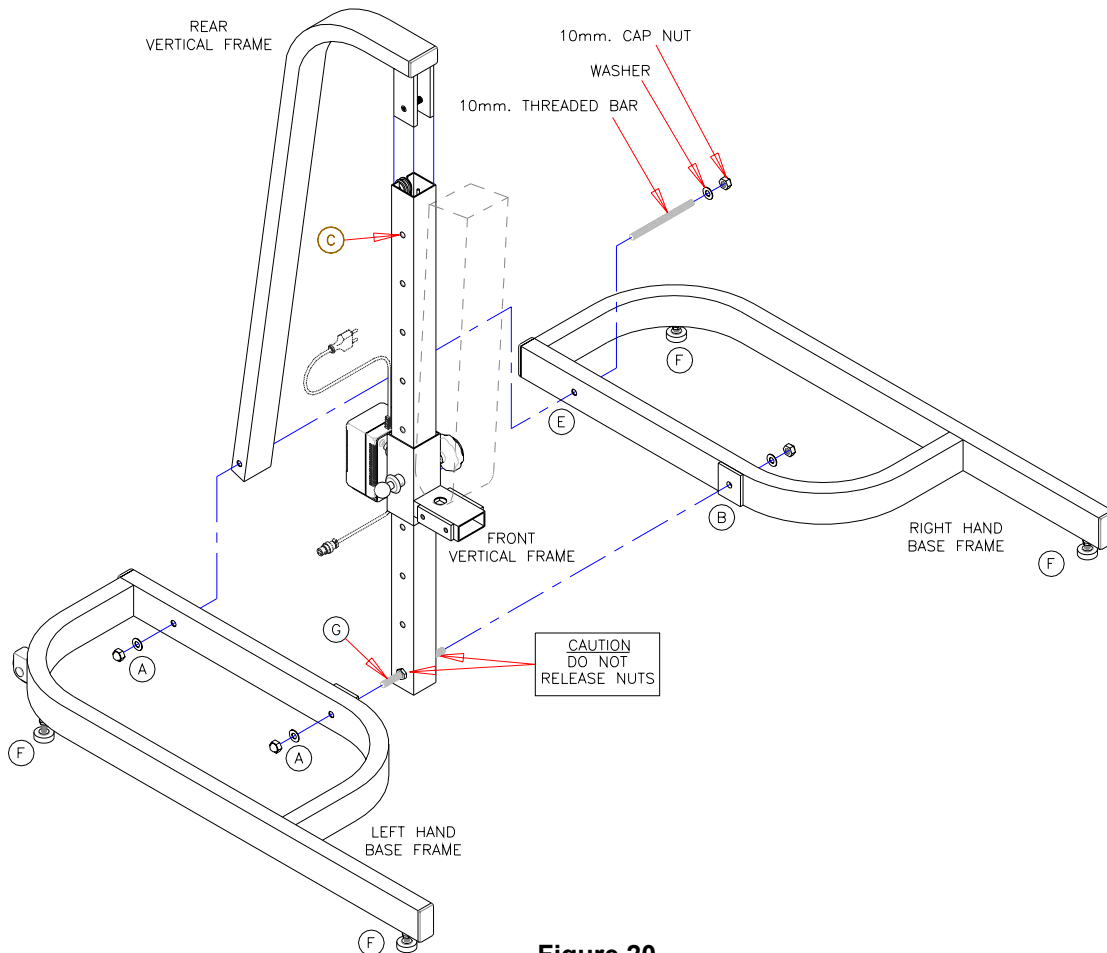

Figure 20
2. Align the *Left and Right Hand Base Frames* on either side of the *Front Vertical Frame* (see Fig. 20)